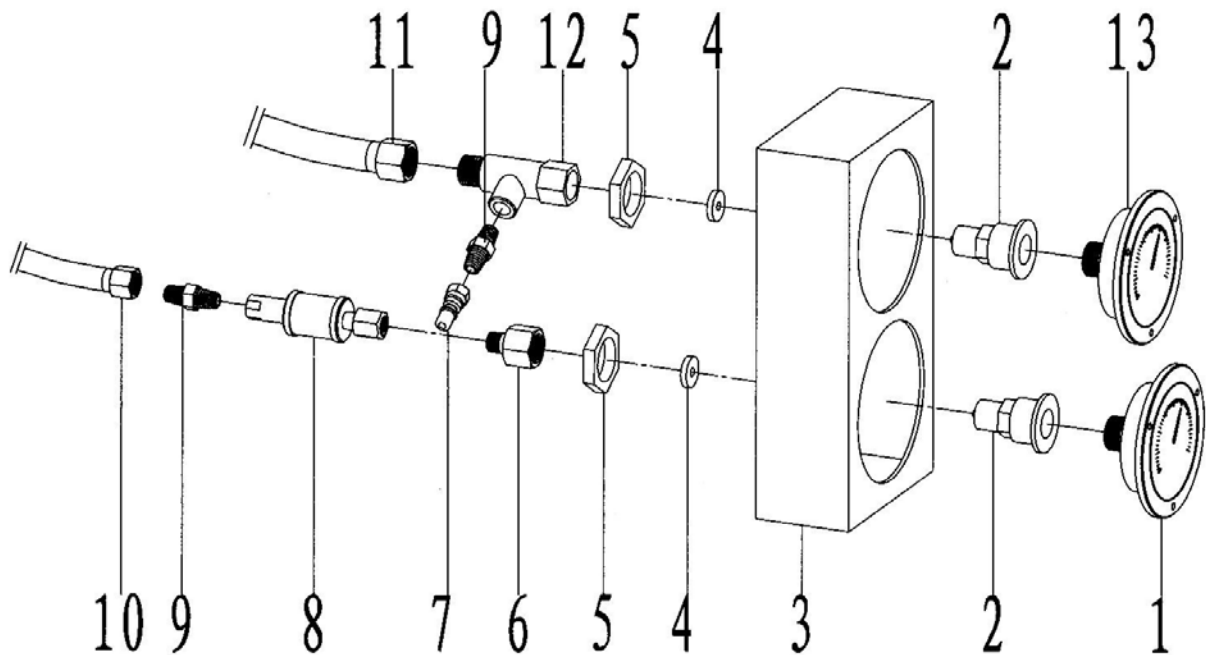

Fig.30
12. Oil filled equipment (Fig30, Table27)